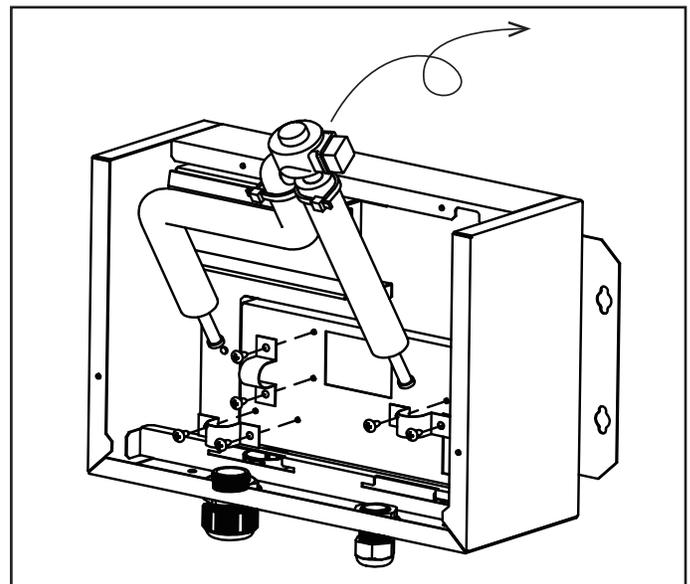

Figure 9. Remove Electronic Expansion Valve
7. Mount the T2B sensor socket to the vapor pipe at the location shown in Figure 9.